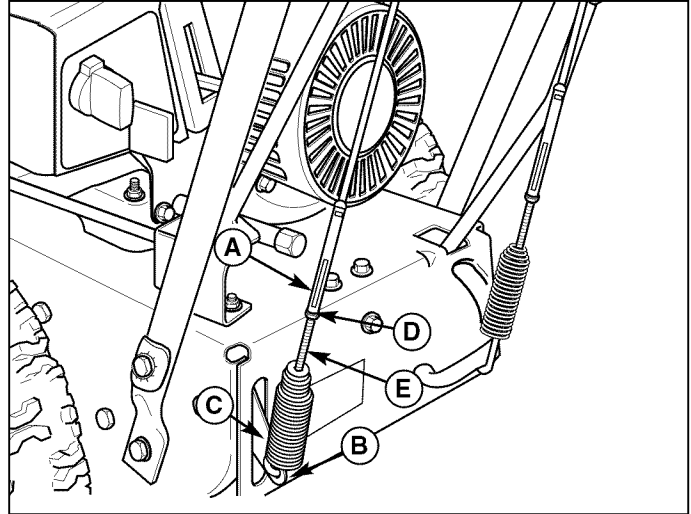

Figure 21. Traction Drive Adjustment
1. Lift the bellcrank arm (C, Figure 21) up as far as it will go.
2. While holding the bell crank arm (C) up, adjust the cable until all the slack is removed.
3. Back the adjustment screw (E) out 7-8 turns. Tighten nut (D).